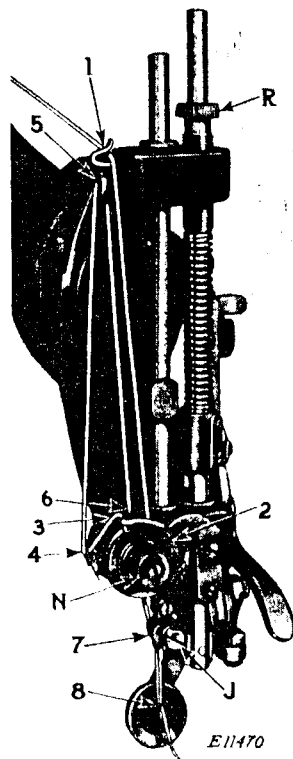

FIG. 4
**Machines 18-22, 18-23, 18-27, 18-35 and 18-37.** Turn the balance wheel over from you until the needle bar is at its highest point. Loosen the screw (J, Fig. 4) in the needle clamp at the lower end of the needle bar and insert the needle into the needle clamp as far as it will go, with the long groove of the needle toward the left or upright part of the arm, then tighten the screw (J).
The tension on the upper thread is regulated by the thumb nut (N, Fig. 4) at the right of the tension discs on the side of the machine head. To increase the tension, turn the thumb nut over from you. To decrease the tension, turn the thumb nut over toward you.
The pressure on the material is regulated by the thumb screw (R, Figs. 4 and 5). To increase the pressure, turn the thumb screw (R) downward. To decrease the pressure, turn the thumb screw upward. The pressure should be only heavy enough to enable the feed to move the work along evenly.